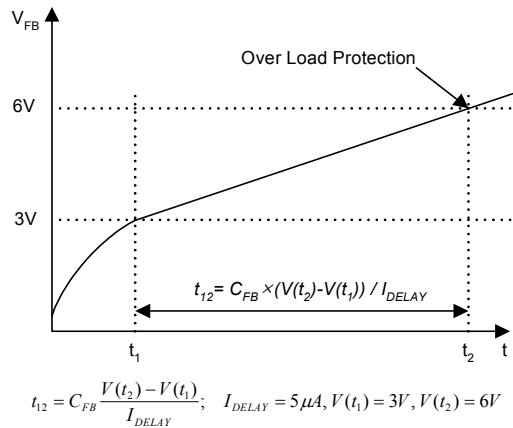

Figure 6. Over Load Protection (OLP)
4.1 Over Load Protection (OLP) : Overload is defined as the load current exceeding a pre-set level due to an unexpected event. In this situation, the protection circuit should be activated in order to protect the SMPS. However, even when the SMPS is operating normally, the over load protection (OLP) circuit can be activated during the load transition. In order to avoid this undesired operation, the OLP circuit is designed to be activated after a specified time to determine whether it is a transient situation or an overload situation. In conjunction with the I_{pk} current limit pin (if used) the current mode feedback path would limit the current in the Sense FET when the maximum PWM duty cycle is attained. If the output consumes more than this maximum power, the output voltage (V_o) decreases below its rating voltage. This reduces the current through the opto-coupler LED, which also reduces the opto-coupler transistor current, thus increasing the feedback voltage (V_{FB}). If V_{FB} exceeds 3V, the feedback input diode is blocked and the 5uA current source (I_{DELAY}) starts to charge C_{fb} slowly up to V_{cc} . In this condition, V_{FB} increases until it reaches 6V, when the switching operation is terminated as shown in Figure 6. The shutdown delay time is the time required to charge C_{fb} from 3V to 6V with 5uA current source.